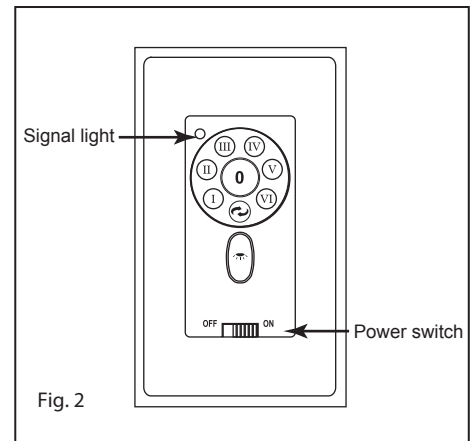

Fig. 2
- 3 Loosen the two security set screws and remove the downrod pin and retaining clip from the coupling on top of the motor assembly. (Fig. 2)
- 2 Connect 2-wire plug from fan to 2-wire plug from LED Assembly. Make sure plugs snap together completely.(Fig.2)
- 4 Install the wall transmitter on the existing wall outlet box using the screws provided. Attached the wall plate with the mounting screws to finish the installation. (Fig. 2)
- 7 Signal light (Fig. 2)